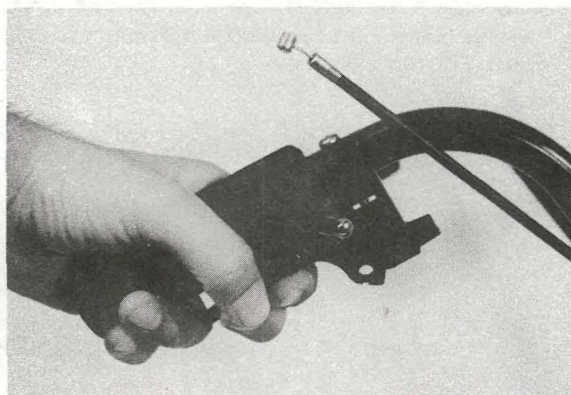

Fig. 10
2. Depress the throttle trigger to show the location hole for the throttle wire (Fig. 10).